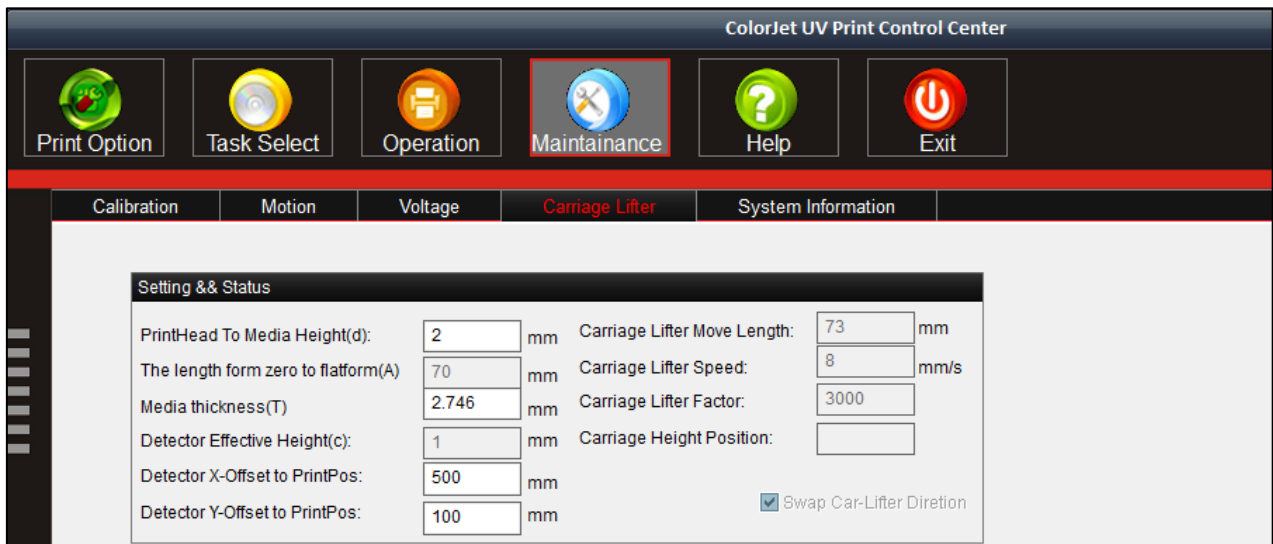

Fig 41: Selecting the Carriage Lifter Tab
Step 10: After blotting inks from heads, click on the **Lifter Move To Print Height** button to reset the height of carriage to printing position (Refer to Fig. 41).